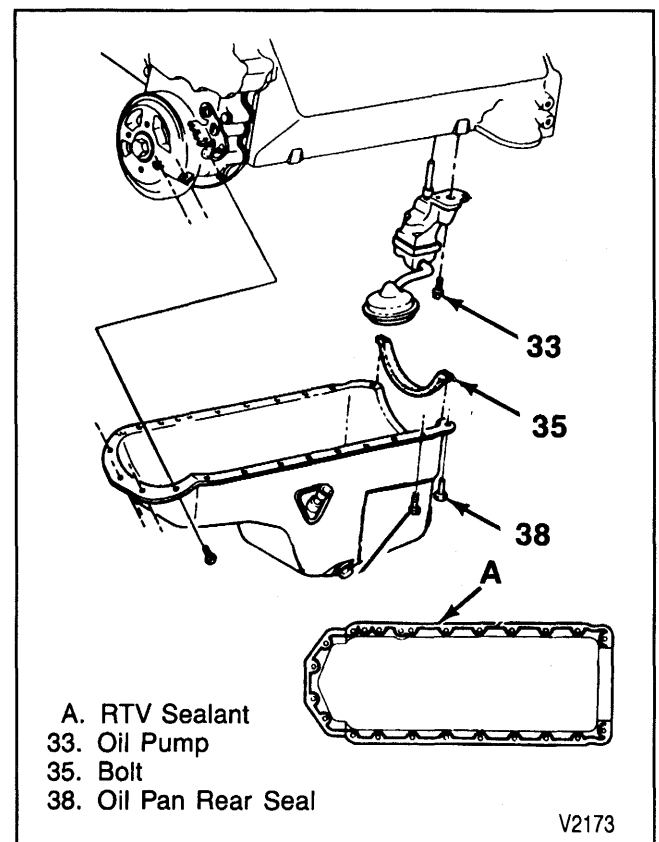

Figure 26—Oil Pan and Oil Pump
Remove or Disconnect (Figure 26)
Install or Connect (Figure 26)
- Apply a 5-mm (3/16-inch) bead of RTV sealant (GM P/N 1052915) or equivalent to the oil pan sealing surface, inboard of the bolt holes (figure 26). The sealer must be wet to the touch when the oil pan is installed.